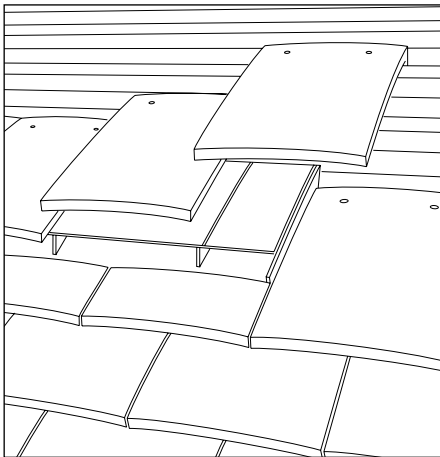

Fig. 5
- 4 With the ventilator in position, tiling can be completed, leaving a discreet flush fitting installation (Fig. 5).